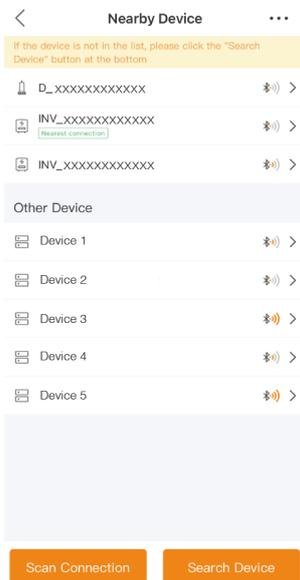

Figure 4: Select your Inverter Device, identified by its' Serial Number which should replace 'XXXXXXXXXXXX'.
You can identify your inverter by its serial number (SN) - which can be found on the Inverter's nameplate. As illustrated in Figure 4, your device will appear on your phone as: **INV_SN**. Here, 'SN', is substituted for your devices Unique Serial Number.